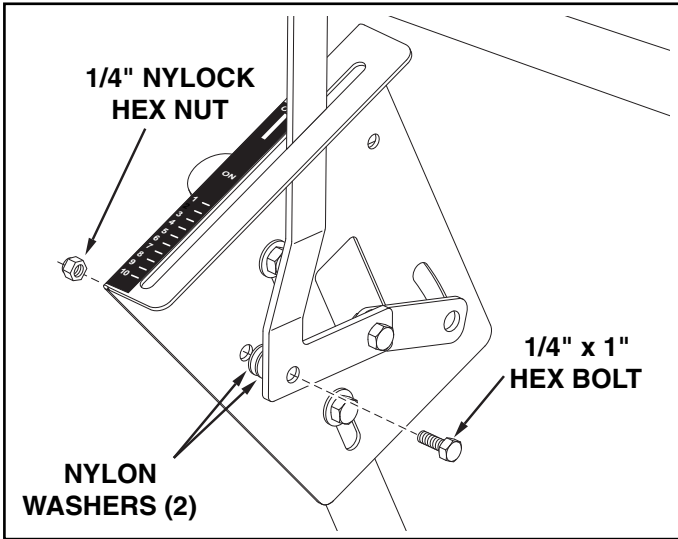

FIGURE 9
- Assemble the flow control arm to the flow control mounting bracket using a 1/4" x 1" hex bolt, two nylon washers and a 1/4" nylock hex nut. **Tighten carefully.** The flow control arm should be snug but should pivot with no more than slight resistance. See figure 9.